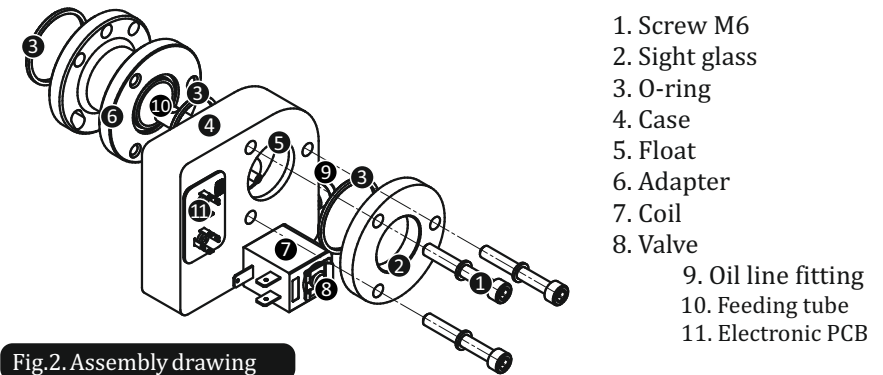

Fig. 2. Assembly drawing
- Connect oil level regulator FP-ERL to compressor as shown in fig.2. If necessary use the original compressor's screws. Keep the sight glass screws strain level on 9Nm.